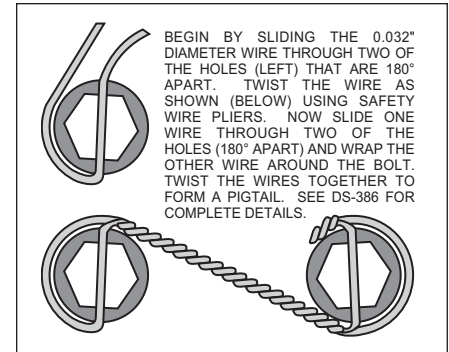

Figure 3. Safety Wire Diagram
- With the larger I.D. side of the rotor (6) facing away from the hat (7), bolt rotor (6) to the hat (7) through the backside of the rotor using washers (8) and bolts (9). Torque bolts (9) in an alternating sequence to 85 **in-lb**. Safety wire bolts (9) using standard 0.032 inch diameter stainless steel safety wire as shown in Figure 3. Please refer to Wilwood's data sheet DS-386 (available at www.wilwood.com/pdf/ds386.pdf) for complete safety wire installation instructions. Slide the rotor/hat assembly onto the spindle. Check to be sure the hat seats squarely against the hub. Install a couple of lug nuts (finger tighten) to keep the rotor/hat assembly in place while continuing with the installation.